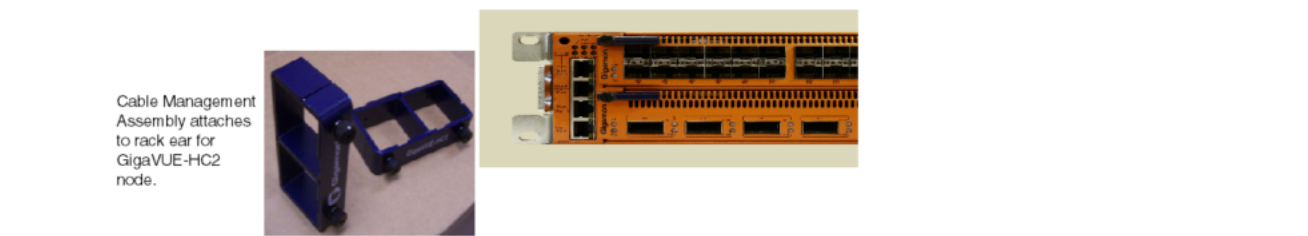

Figure 6: GigaVUE-HC2 Cable Management Assembly and Rack Ear
- a. Locate the cable management assembly (Figure 6: GigaVUE-HC2 Cable Management Assembly and Rack Ear).